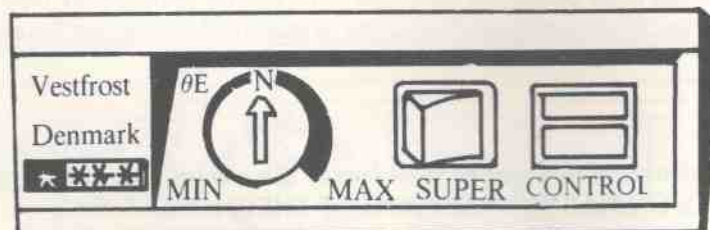

Fig. 17
7. Initially the temperature inside the freezer will decrease slowly. It will be observed after a considerable period that the temperature will reach -20°C . Now, turn the thermostat knob to 'N' position (Fig: 17) and continue to observe the temperature inside the Freezer, time to time.